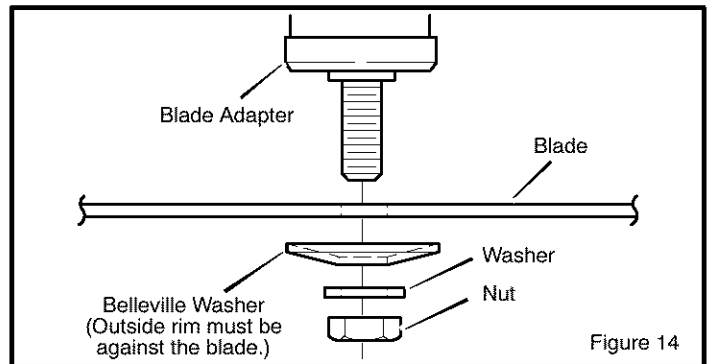

Figure 14
3. Fasten the **blade** with the original washers and **nut**. Make sure the outside rim of the **Belleville washer** is against the **blade** (Figure 14).